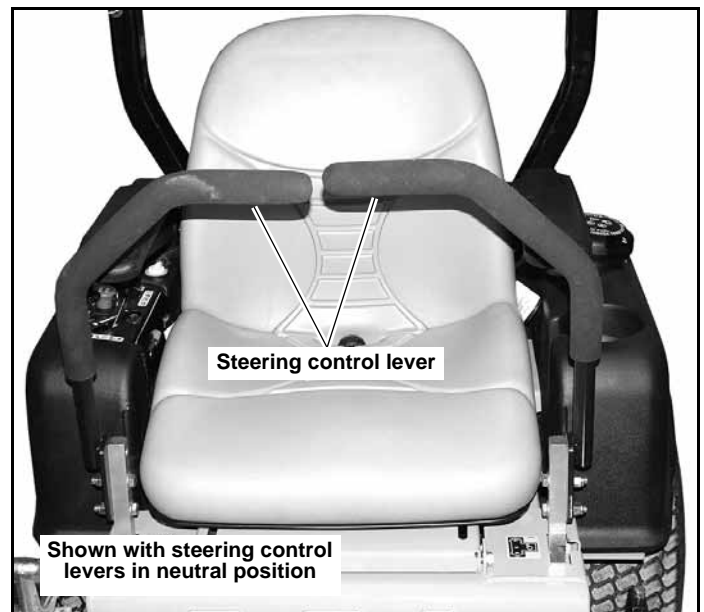
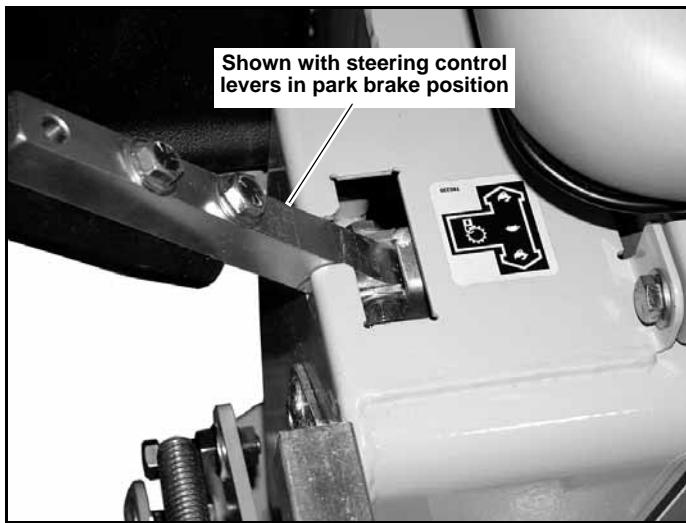

Figure 3-2
Figure 3-3
- A. Steering control levers (Figure 3-2 & Figure 3-3)** — these levers control the mower's speed, direction, stopping, and park brake. These levers are used to steer, accelerate, decelerate and change direction. When the steering control levers are in the park brake position the mower will not move when the engine is on and the drive pumps are operating.